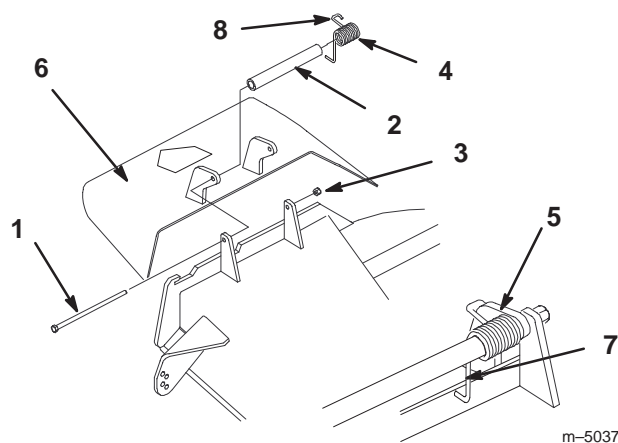

Figure 67
1. Remove the locknut, bolt, spring and spacer holding the deflector to the pivot brackets (Fig. 67). Remove damaged or worn grass deflector.
Note: Make sure the **L** end of spring is installed behind deck edge before installing the bolt as shown in figure 67.
3. Install bolt and nut. Place **J** hook end of spring around grass deflector (Fig. 67).